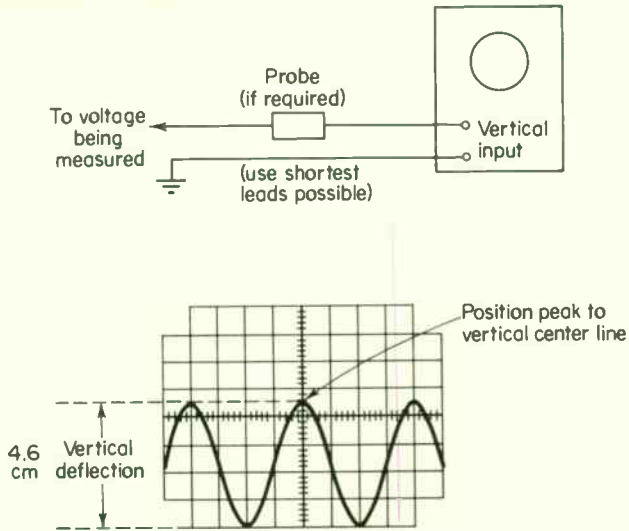

Fig. 6-1. Measuring peak-to-peak voltages.
1. Connect the equipment as shown in Fig. 6-1.
the waveform coincides with one of the graticule lines below the graticule center line, as shown in Fig. 6-1.
9. Adjust the horizontal position control so that one of the upper peaks of the signal lies near the vertical center line, as shown in Fig. 6-1.
**Example:** Assume a peak-to-peak vertical deflection of 4.6 cm (Fig. 6-1) using a 10X attenuator probe and a vertical deflection factor of 0.5 volt/cm. Using the equation:
8. Adjust the vertical position control so the downward excursion of the waveform coincides with one of the graticule lines below the graticule center line, as shown in Fig. 6-1.
*Example:* Assume a peak-to-peak vertical deflection of 4.6 cm (Fig. 6-1) using a 10X attenuator probe, a 10X position of the step attenuator, and a calibration factor of 0.5 volt per centimeter.